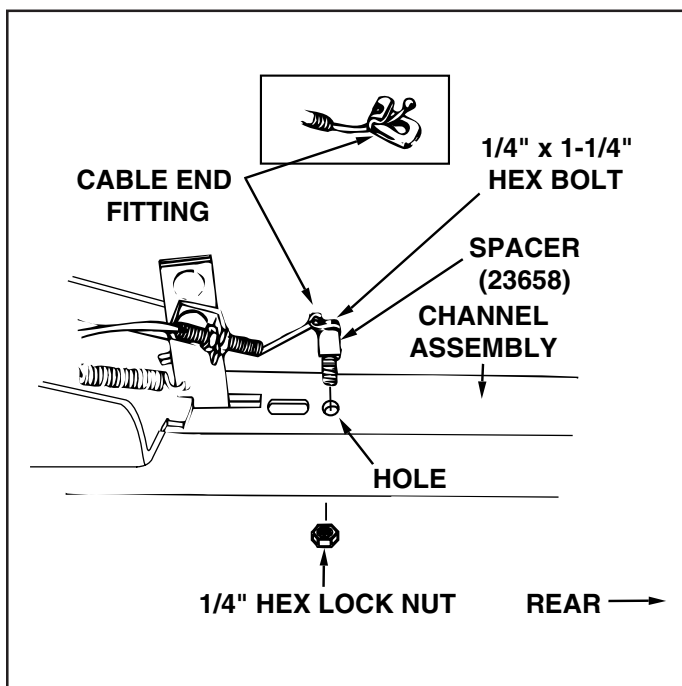

FIGURE 14 (Left Hand Side View)
- Assemble ball end of control cable up through hole in cable end fitting and pull till ball slips inside curled edge of fitting. Note: If ball wont slip under edge of curl it will need to be inserted through open end of curl. See figure 14
- Assemble 1/4" x 1-1/4" hex bolt down through the cable end fitting, the 5/8" long spacer and the left hand hole in the channel assembly. Secure with a 1/4" hex lock nut. See figure 14. **Tighten**.